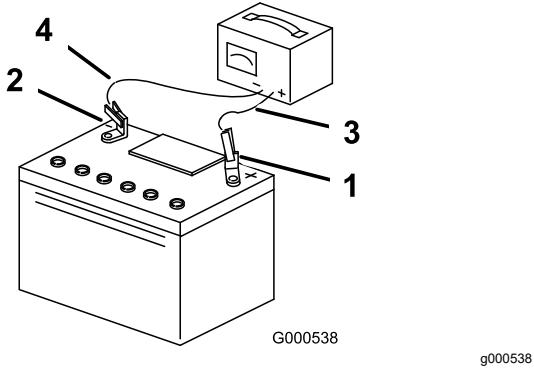

Figure 42
3. When the battery is fully charged, unplug the charger from the electrical outlet, and disconnect the charger leads from the battery posts (Figure 42).